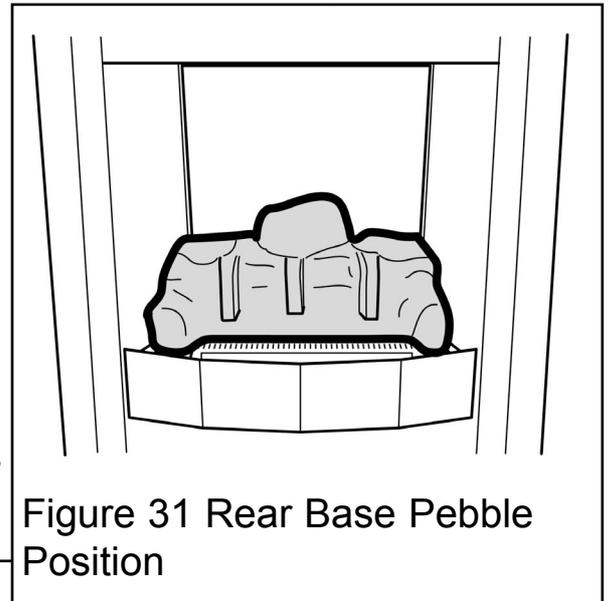

Figure 31 Rear Base Pebble Position
1. Place the rear base pebble in the firebox. It should rest on the ledges at the rear sides of the burner unit. See figure 31. When located gently move the rear base pebble so that it is as far forward as possible. The amount of movement will be negligible.